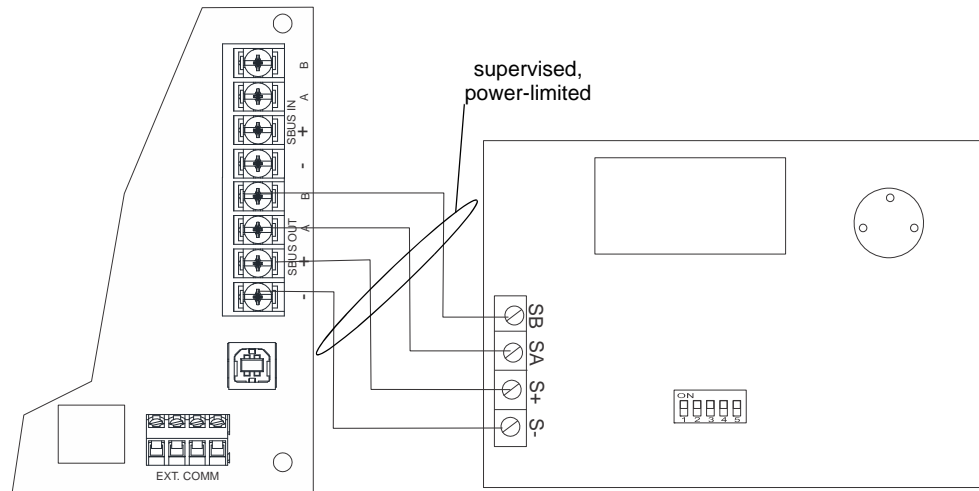

Figure 4.22 5860 Connection to the Panel
3. Connect the 5860 to the panel (see Figure 4.22).
4. After the annunciator wiring to the panel has been completed (refer to Figure 4.22), replace the electronic assembly in the back box. Place the bezel over the back box and tighten the set screws on the bezel.